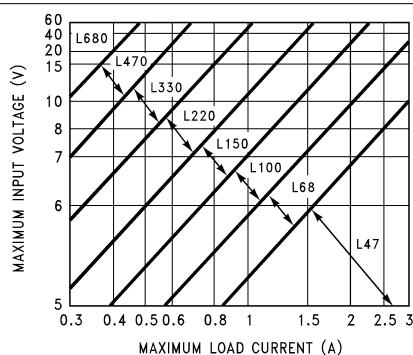
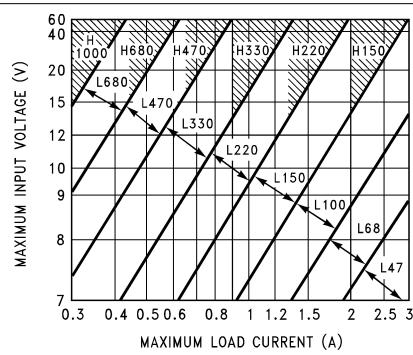
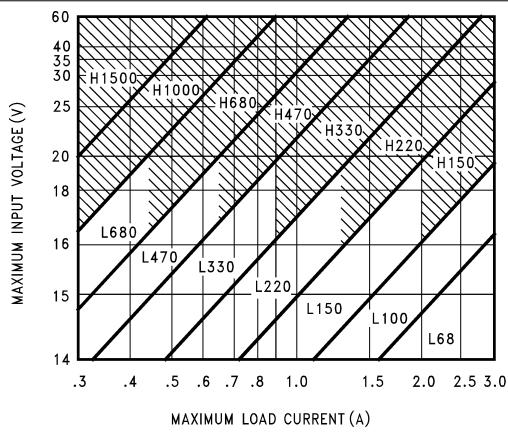
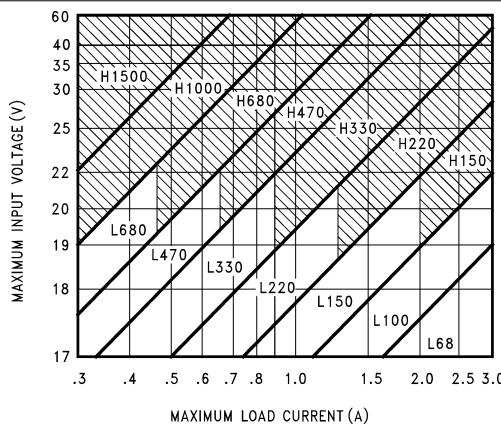

Figure 8-4. LM2576(HV)-3.3
Figure 8-5. LM2576(HV)-5.0
Figure 8-6. LM2576(HV)-12
Figure 8-7. LM2576(HV)-15
The inductor value selection guides in Figure 8-4 through Figure 8-8 are designed for buck regulator designs of the continuous inductor current type. When using inductor values shown in the inductor selection guide, the peak-to-peak inductor ripple current is approximately 20% to 30% of the maximum DC current. With relatively heavy load currents, the circuit operates in the continuous mode (inductor current always flowing), but under light load conditions, the circuit is forced to the discontinuous mode (inductor current falls to zero for a period of time). This discontinuous mode of operation is perfectly acceptable. For light loads (less than approximately 300 mA), it may be desirable to operate the regulator in the discontinuous mode, primarily because of the lower inductor values required for the discontinuous mode.
1. Select the correct Inductor value selection guide from Figure 8-4, Figure 8-5, Figure 8-6, or Figure 8-7. (Output voltages of 3.3 V, 5 V, 12 V or 15 V respectively). For other output voltages, see the design procedure for the adjustable version. Use the selection guide shown in Figure 8-5.
3. Identify the inductor value from the inductor code, and select an appropriate inductor from the table shown in Figure 8-4. Part numbers are listed for three inductor manufacturers. The inductor chosen must be rated for operation at the LM2576 switching frequency (52 kHz) and for a current rating of $1.15 \times I_{LOAD}$. For additional inductor information, see Section 8.1.2. Inductor value required is 100 μ H from the table in Figure 8-4. Choose AIE 415-0930, Pulse Engineering PE92108, or Renco RL2444.